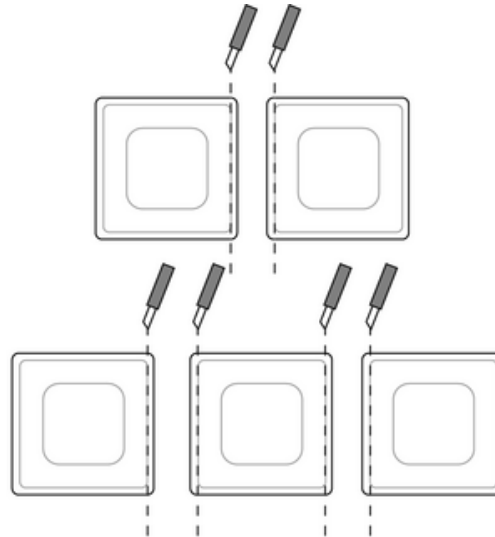

Figure 4: Cutting the adhesive pads for multiple combinations
- i** In the case of multiple combinations, the abutting sides of the adhesive pads must be cut along the external punching using a ruler and a cutter (figure 4).